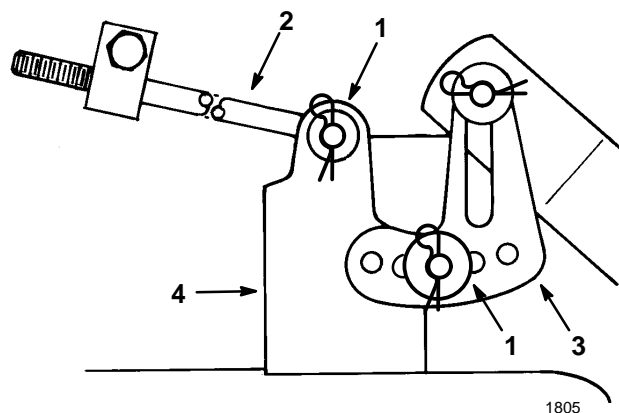

Figure 40
10. Remove the hair pin cotter and washer from the end of the long rod (Fig. 40). Now slide the rod out of the mower mount. Repeat this step on the opposite side of the mower.
11. Remove the hairpin cotter and washer at the mower leveling bracket (Fig. 40). Slide the bracket off the mounting pin. Re-install the washer and hairpin cotter for storage.